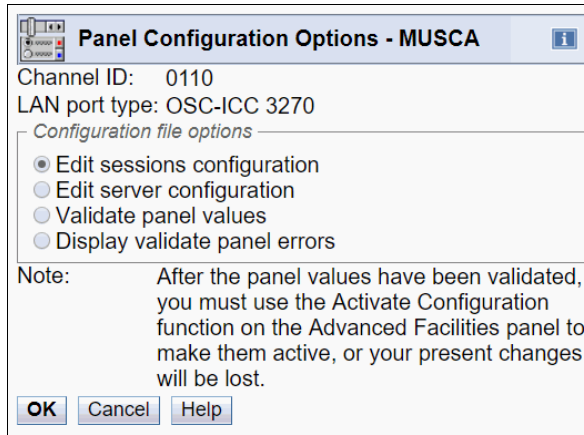

Figure 7-5 Selecting Edit sessions configuration option
- Define the session configuration. Select **Edit sessions configuration** and click **OK**. The window that is shown in Figure 7-5 opens.